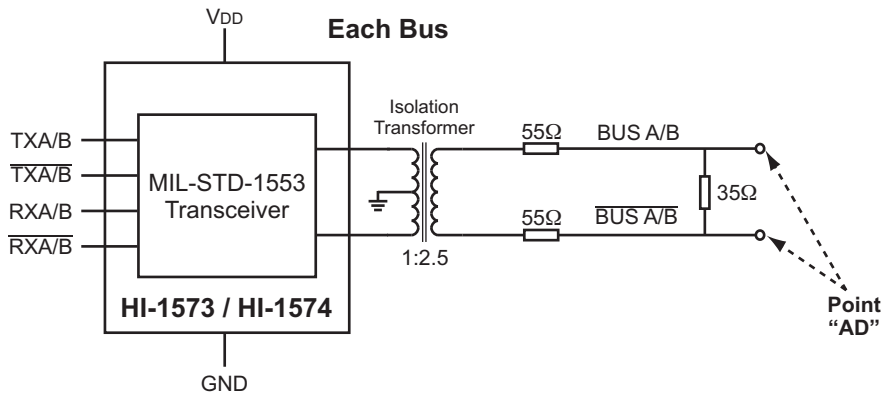
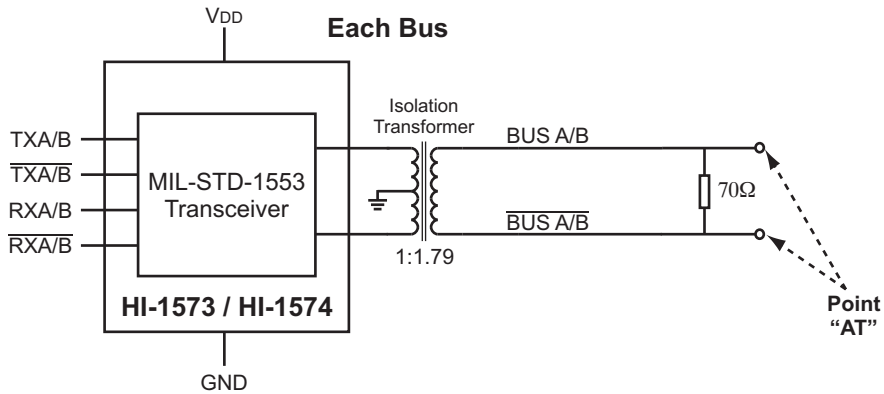

Figure 3. Direct Coupled Test Circuit
Figure 4. Transformer Coupled Test Circuit
Figure 3 and Figure 4 show test circuits for measuring electrical characteristics of both direct- and transformer-coupled interfaces respectively. (See electrical characteristics on the following pages).
**RECEIVER (Measured at Point "Ad" in Figure 3 unless otherwise specified)**
TRANSMITTER (Measured at Point "Ab" in Figure 3 unless otherwise specified)
RECEIVER (Measured at Point "At" in Figure 4)
TRANSMITTER (Measured at Point "Ab" in Figure 3)